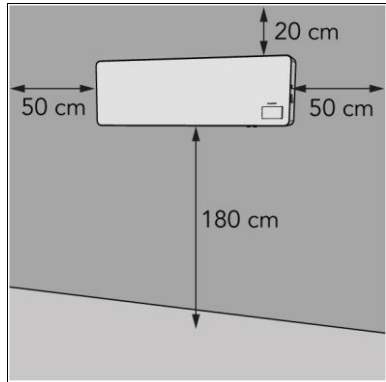

Figure 6
2. Place the device with a minimum distance (Figure 6) of: